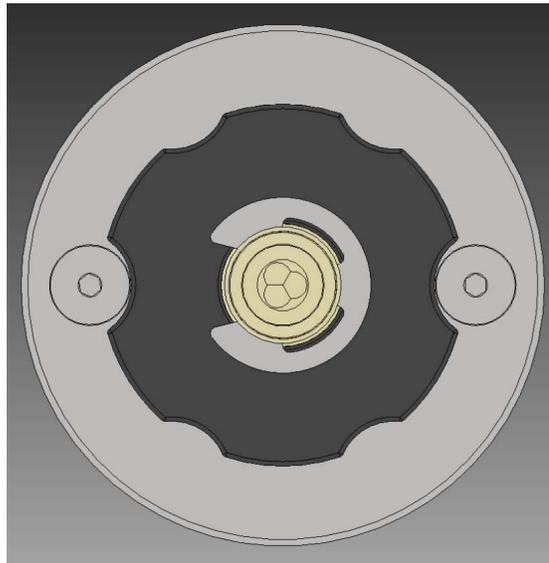

FIGURE F. 1. - KNOB ORIENTATION
1. Viewing the valve from the outlet end, orient the knob so that the screw heads are visible through the knob fluting (see Figure F.1.)